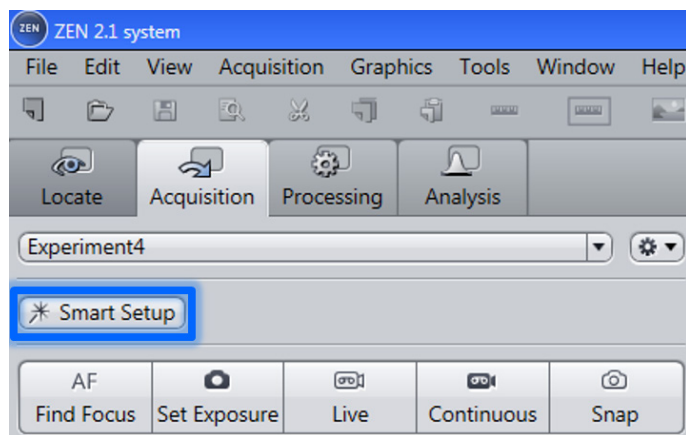

Fig. 17 Smart Setup button
- Start the wizard using the **Smart Setup** button (Fig. 17) in the **Acquisition** tab.